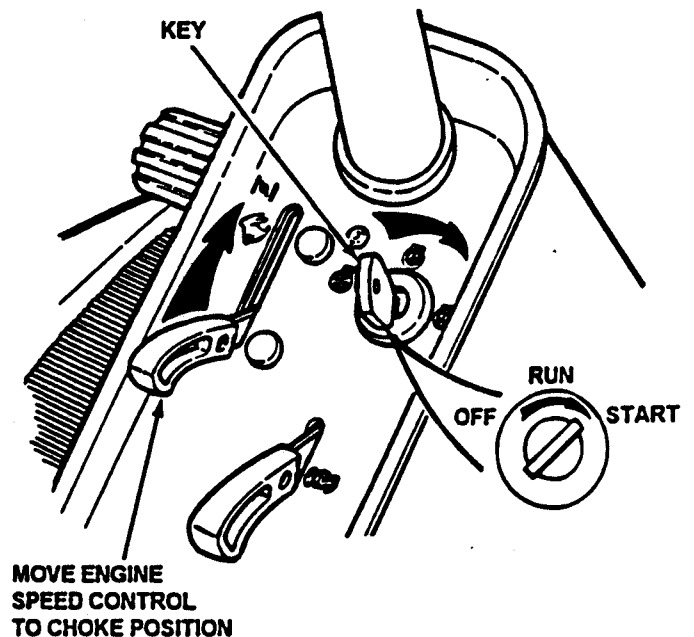

FIGURE 2.7
5. Move engine speed control to the choke position to start a cold engine. See Figure 2.7.
6. Turn key to the "START" position until engine starts. See Figure 2.7. NOTE: If after 5 seconds of cranking the engine and it does not start, release the key, make sure the Clutch/Brake Pedal is fully depressed and attempt starting again after waiting for approximately 20 seconds.